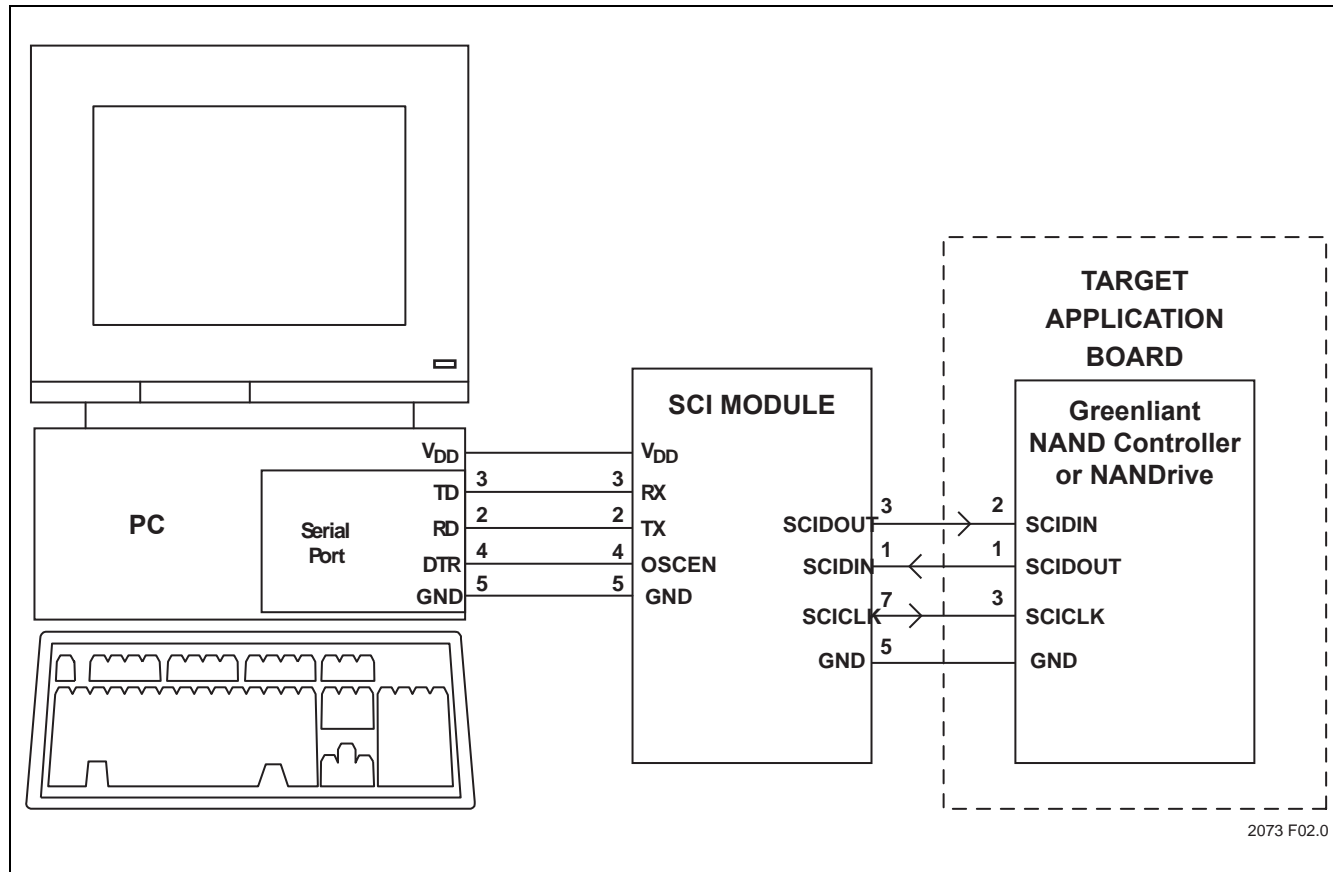

FIGURE 1: System Block Diagram
The SCI Module provides appropriate voltage conversion and connection between the PC serial port and the SCI input/output pins of the NAND controller or NANDrive. SCI Module power is provided by the target application board. See Figure 1 for the system block diagram.
3. Connect the SCID_{OUT}, SCID_{IN}, and SCICLK pins of the SCI Module to the SCID_{IN}, SCID_{OUT}, and SCICLK pin on the NAND Controller or NANDrive. See Figure 1.